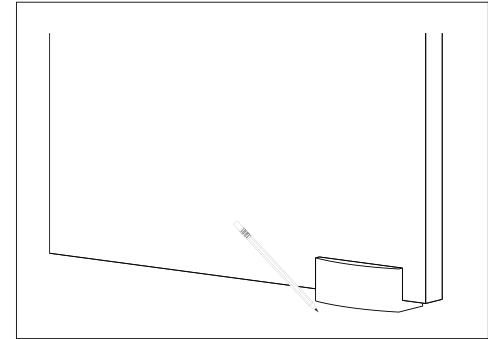
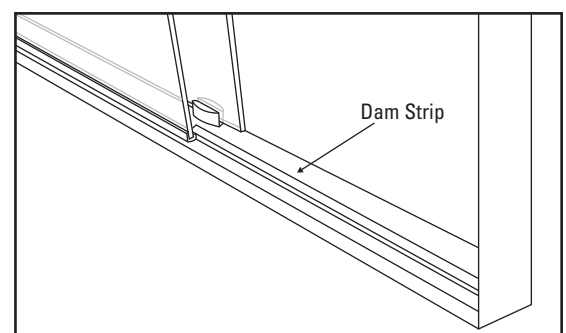

Figure 11
Figure 12
- D. Slide the Floor Guide (#9) under the Sliding Door Panel (#6), mark the position and then remove Sliding Door Panel (#6) and carefully set it inside the tub/shower enclosure again (see Figure 11).
- E. **Option A:** Place the Floor Guide (#9) back on the marks you just made, then mark and drill the holes (see Figure 11). Apply silicone to the bottom of the Floor Guide (#9). Set into place, and secure with screws. Wipe excess silicone away.
- F. Install the Sliding Door Panel (#6) on the rail, carefully setting the glass into the Floor Guide (#9). Install the two (2) Wheel Assemblies (#7) into place. This should be the bottom holes on the Sliding Door Panel (#6).
- G. Install the Dam Strip (#14). Remove the two-way tape and position the Dam Strip (#14) behind the U-Channel (#13) and butt it up to the wall (see Figure 12).